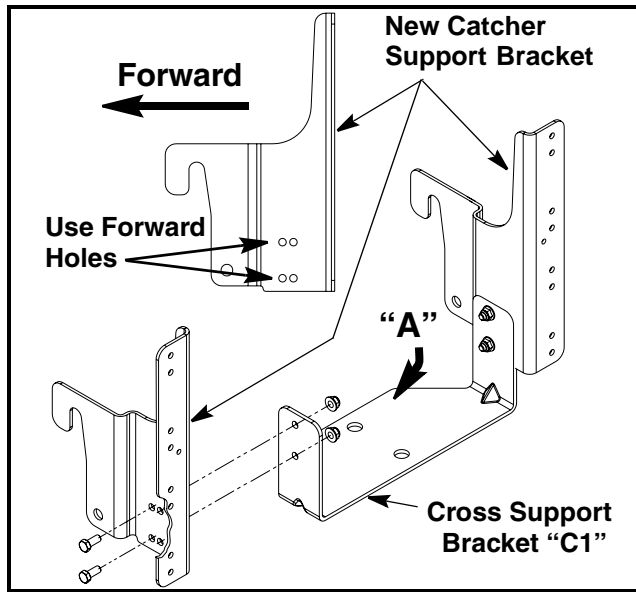

FIGURE 5
9. Using the two new Catcher Support Brackets, Items 9 and 10, supplied in this kit, and the four 5/16"-18 screws and lock nuts from Step 4, mount the cross support bracket "C1" (from Step 4) as shown in Figure 5. Note the orientation of the cross support bracket's extended lip "A". Do not tighten the screws at this time, allow brackets to move slightly.